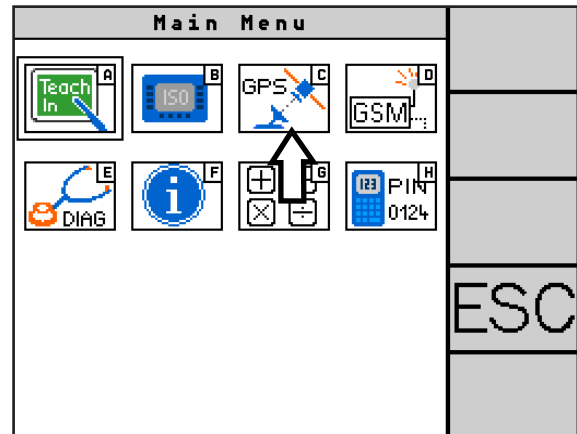

Fig. 93: Call up GPS configuration
Select the GPS symbol (C) in the main menu (see Fig. 93) to call up the receiver configuration.